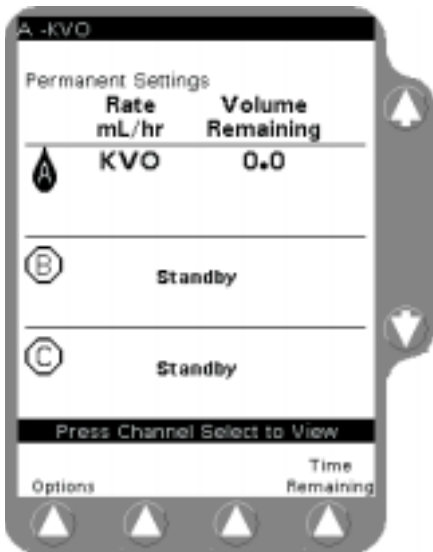

Figure 3-17 KVO Display
1. When the volume remaining reaches zero, the pump automatically enters a KVO (Keep Vein Open) alert mode (Figure 3-17).